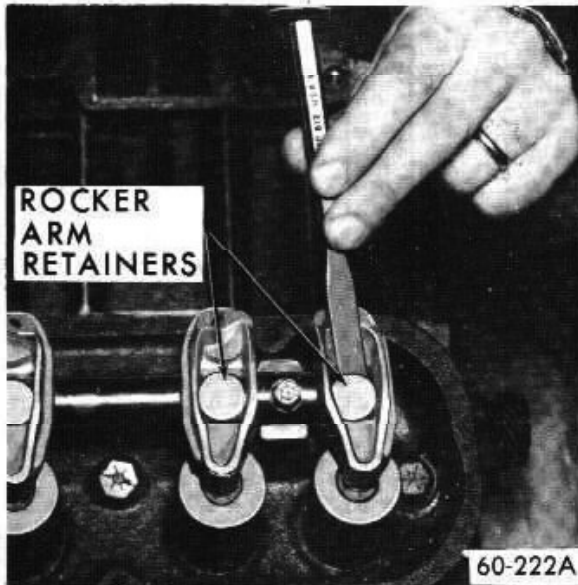

Figure 60-82 - Removing Nylon Retainer
- Remove nylon arm retainers by breaking them below their head with a chisel. See Figure 60-82.